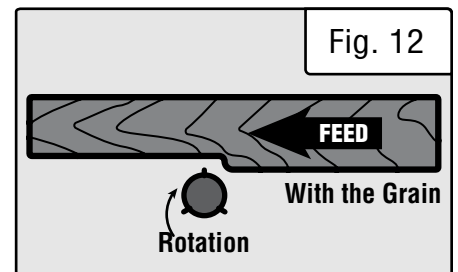
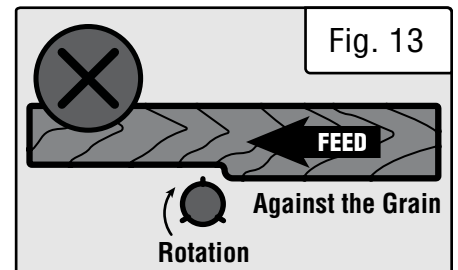

Fig. 12
Fig. 13
4. Cut with the grain whenever possible (Fig. 12). Do not feed against the end grain (Fig. 13), otherwise the workpiece may split and shatter. If the nature of the workpiece requires you to joint against the grain, take extremely light cuts and feed slowly. When using long work pieces, use extra supports at both ends of the jointer.